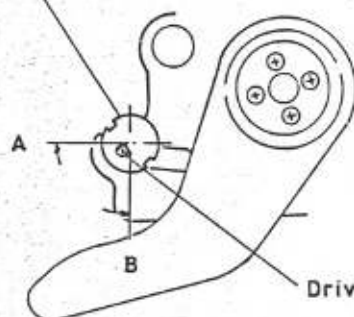

Fig. 71
b. Before install, C10 Counter driving lever retainer must be positioned as shown in Fig. 71.